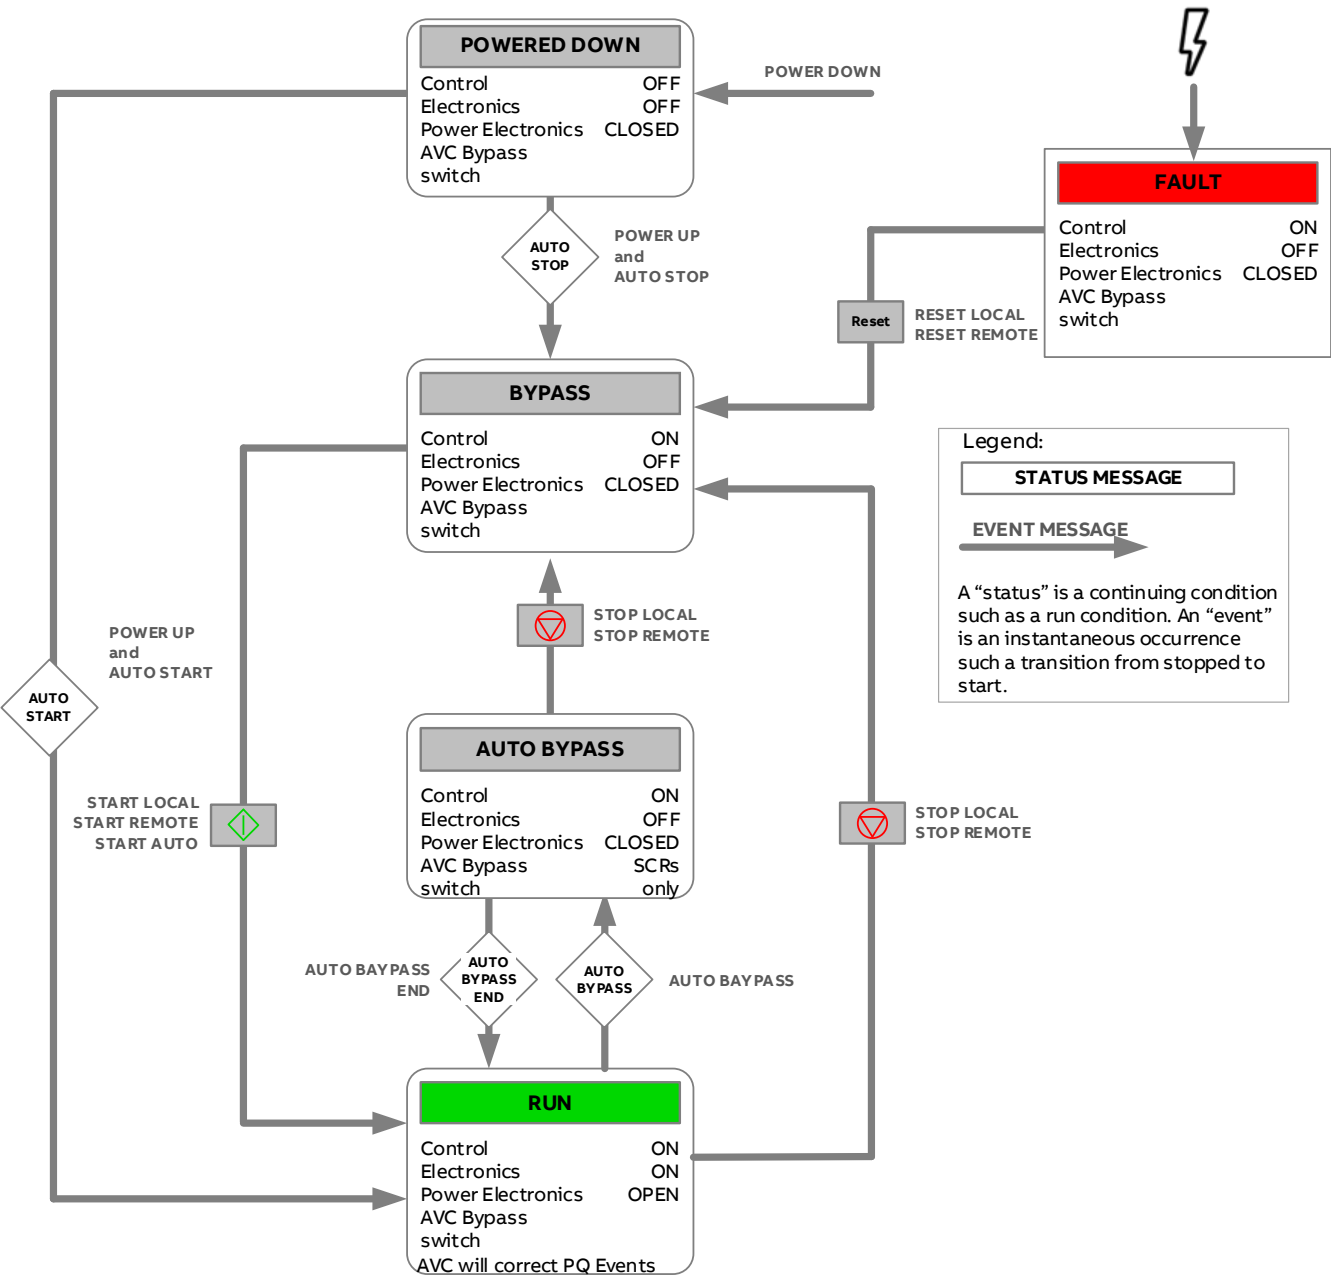

Figure 6-6: PCS100 AVC-40 state flow diagram.
1. PCS100 AVC-40 Status: Refer to Table 6-2 for a complete list of status messages. See also Figure 6-6: PCS100 AVC-40 state flow
Figure 6-6 shows PCS100 AVC-40 state flow diagram.